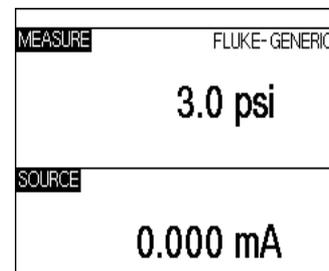

Figure 15
5. Next depress the "MEAS/SOURCE" button once and you should be in the split screen mode (Figure 15).